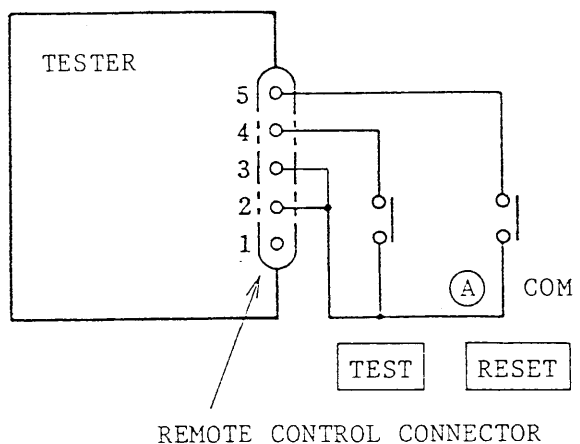
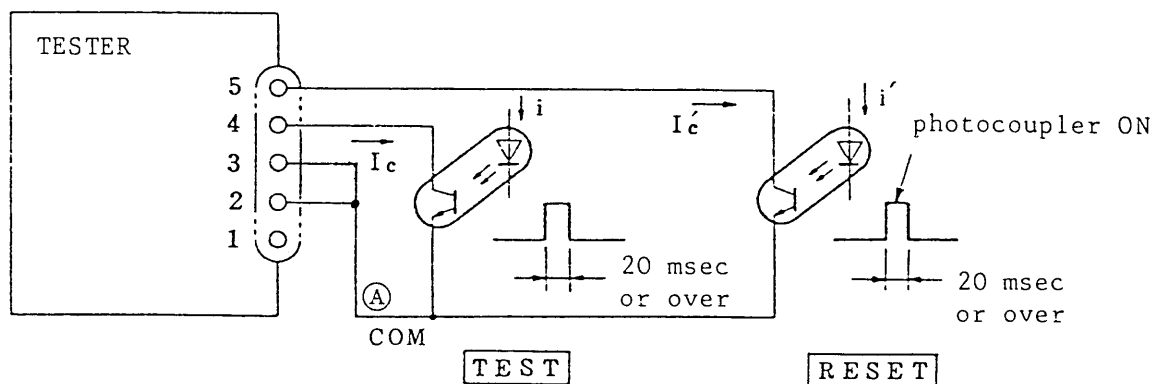

Figure 4.8
Figure 4.10
- (1) Because the instrument can operate by remote control, the pin No. 2 and No. 3 of connector must be externally connected.
- (2) By controlling the TEST and RESET contacts shown in Figure 4.8, the test voltage can be on/off-controlled in the same manner as done locally at the instrument front panel.
- (4) Logic elements (transistors, FET's, or photocouplers) may be used instead of the switches in Figure 4.8. The signal status for such operation is shown in Figure 4.10. The input conditions of this instrument for such operation are as follows:
- (5) As for the elements to be connected to the Tester, the use of photocouplers as shown in Figure 4.10 or relays as shown in Figure 4.8 would be advantageous from the viewpoint of preventing erroneous system operations which could be caused by noise. Although the Tester is incorporated with the various provisions to guard it against erroneous operations caused by noise generated